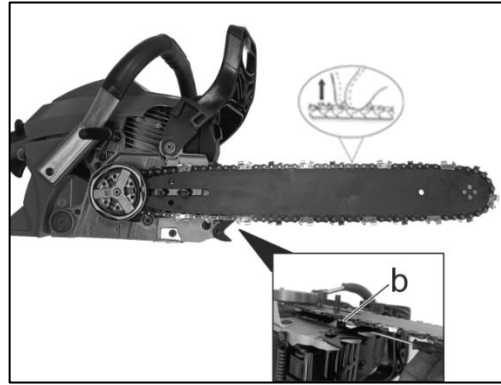

Fig.10
- 4) Turn the chain tension adjustment screw (b) clockwise to tighten the saw chain. A correctly tensioned chain allows the chain to be lifted (with 2 fingers) to make sure a full guide tooth is visible (Fig.10).